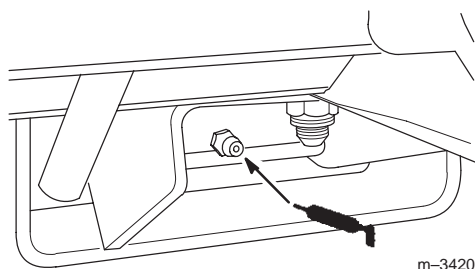

Figure 33
6. Grease the fitting on the brake pedal (Fig. 33).